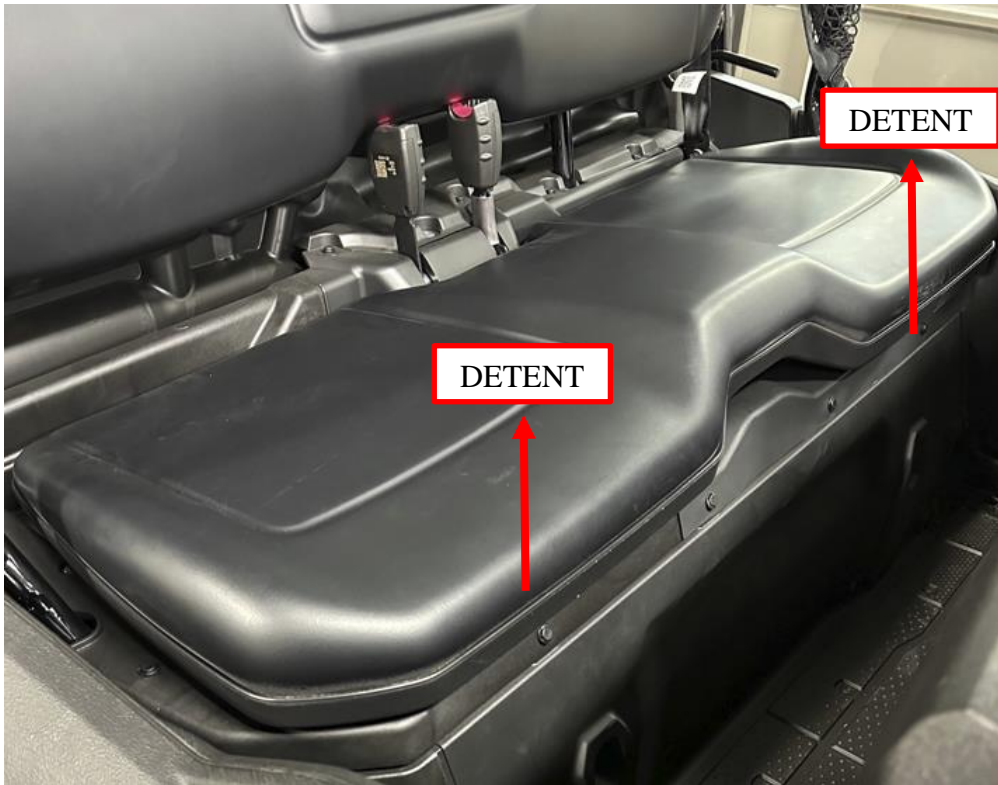

Figure 16: Release the seat detents to remove the seat.
16. Remove the front seat by pulling up around the front edge to release the detents and gently pulling the seat forward. See Figure 16.
21. Reinstall the rubber cover over the battery, the seat, and the hood. See Figure 17, Figure 16, and Figure 7.